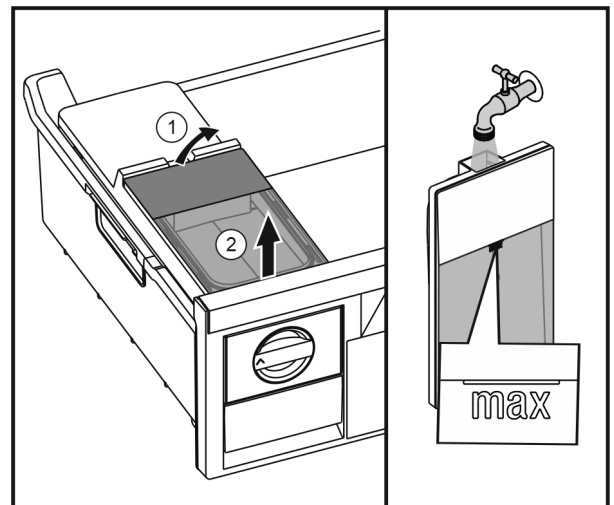

Fig. 31
- ▶ Lift up the water tank at the rear Fig. 31 (1) and remove to the top Fig. 31 (2).